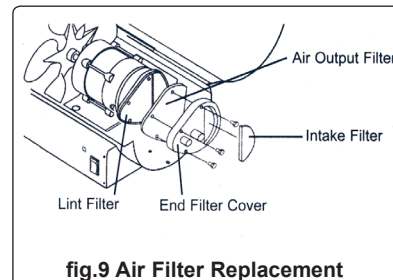

fig.9 Air Filter Replacement
- 6.4. **Air filter.** The cast alloy compressor unit is protected by a three stage filter system (fig.9). The intake filter should be cleaned every 500 hours, or more regularly if the appliance is used in a dusty environment.